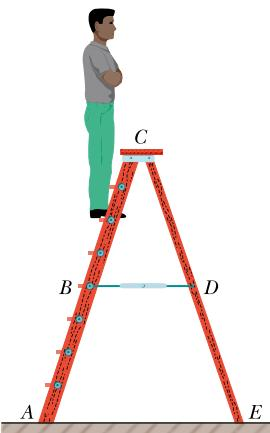

Figure 12.39 Problem 39.
**39 H** For the stepladder shown in Fig. 12.39, sides *AC* and *CE* are each  $2.44\text{ m}$  long and hinged at *C*. Bar *BD* is a tie-rod  $0.762\text{ m}$  long, halfway up. A man weighing  $854\text{ N}$  climbs  $1.80\text{ m}$  along the ladder. Assuming that the floor is frictionless and neglecting the mass of the ladder, find (a) the tension in the tie-rod and the magnitudes of the forces on the ladder from the floor at (b) *A* and (c) *E*. (*Hint:* Isolate parts of the ladder in applying the equilibrium conditions.)